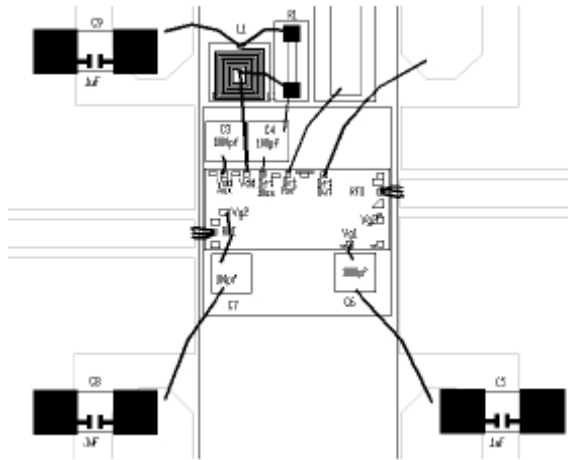
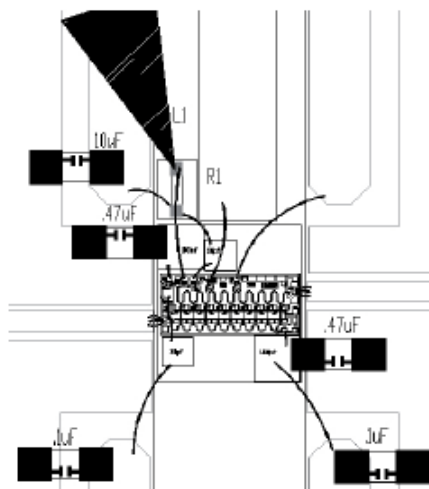
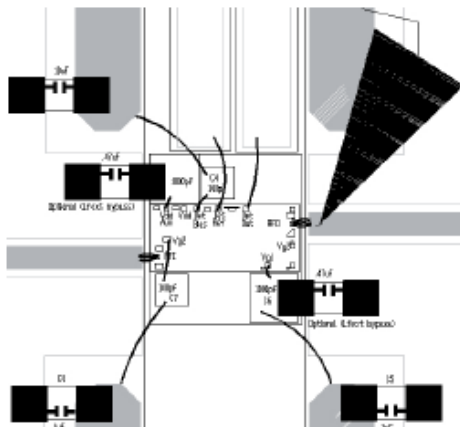

Figure 6
Figure 7
Figure 8
- 3) Increasing the inductance of the drain inductor (L1, Figure 6) to provide high impedance bias feed at the lower frequencies.
All three factors are equally important since any one of these can limit the low frequency performance. Input and output return loss degrades as the drain and gate line loads deviate from 50 Ω . The load can be restored close to 50 Ω and RF performance improved by adding large external capacitors in parallel with the on-chip capacitors, as shown in Figure 6. When the additional bypass capacitors are connected, the low frequency limit is extended down to the corner frequency determined by the bypass capacitors, the combination of the on-chip 50 Ω load, and the small de-queing resistor. At this low-end band edge, the small signal gain will increase in magnitude and stay at this elevated level down to the point where the CAUX bypass capacitor acts as an open circuit, effectively rolling off the gain completely. The low frequency capacitive extension limit can be approximated from the following equation:
Using this equation, CDC can be calculated for different desired corner frequencies. The equation is an approximation because it does not take into account other factors, such as transmission line impedances and TWA termination networks. In a typical assembly, the bypass capacitors are usually mono-block capacitors on the order of 0.01 or 0.47 μF , depending on the desired low frequency operating point. Keep in mind that these mono-blocks have series parasitic inductance. Since the RF DC blocking capacitors are the most sensitive, in this respect, we show a few recommended broadband DC blocks in Table 1. Figure 6, illustrates a 2 GHz to 50 GHz laminate PCB assembly. L1 is a chip inductor, and R1 is the de-queing alumina chip resistor. Figure 7, illustrates a 10 MHz to 50 GHz laminate PCB assembly. L1 is a Piconics broadband inductor. This inductor has an iron filling that negates the parallel resistor for de-queing. R1 is used simply as a means of launching the inductor and providing bias to the on-chip detector. As discussed previously, as the DC bias is on the same electrical path as the RF path, it is possible to bias the TWA through the RF transmission line. Figure 7 below illustrates this alternative method. The 2 GHz to 40 GHz RF performance, using a 7 turn Micrometrics chip inductor, are illustrated in Figure 8. All module losses are included in this data.